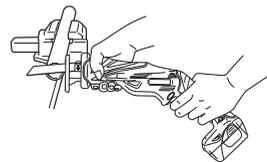

Fig. 26
(1) Fasten a workpiece firmly before operation (**Fig. 26**).
(2) When cutting metallic materials, use proper machine oil (turbine oil, etc.). When not using liquid machine oil, apply grease over the workpiece.